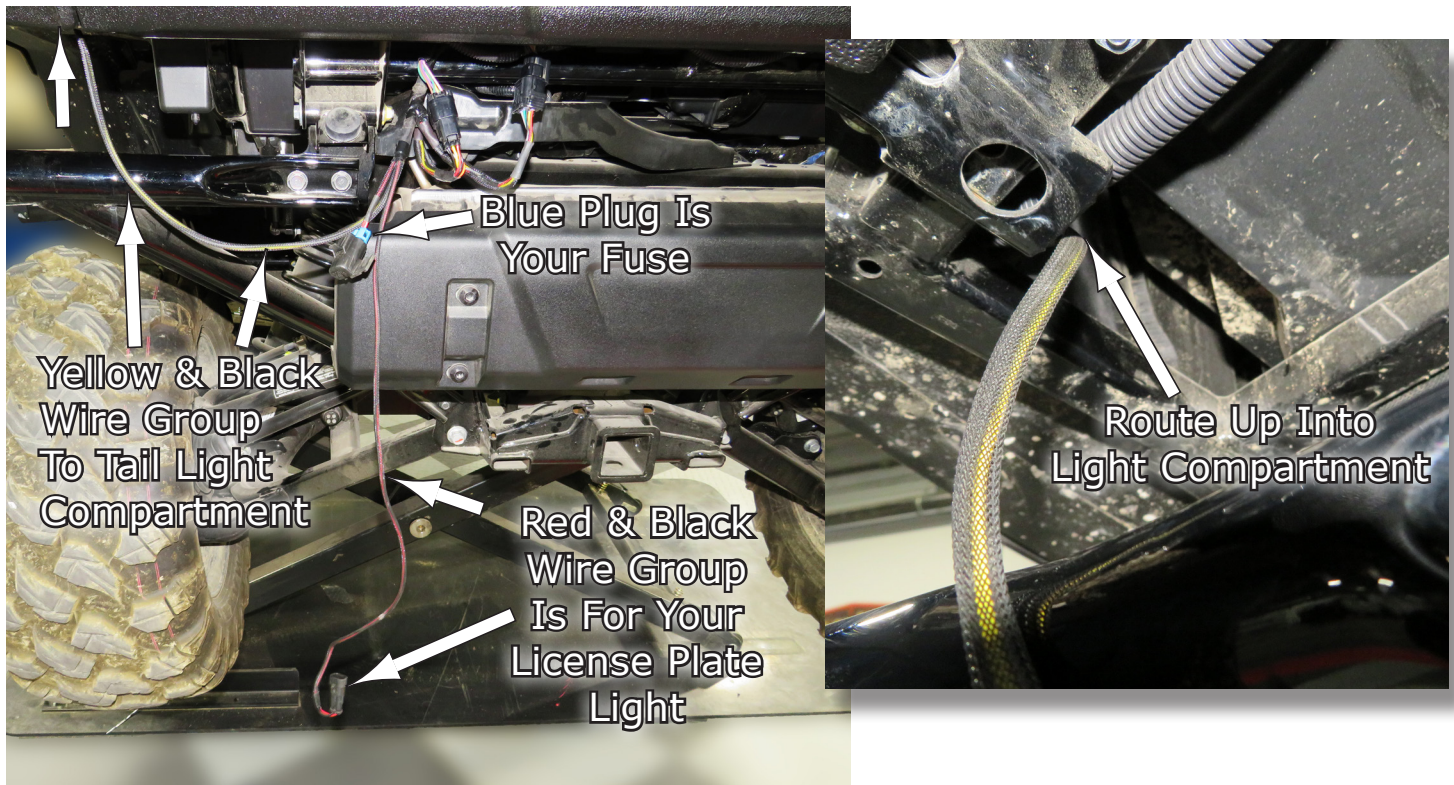

Fig.17
19. After the plugs have been connected in the previous step, now route the Yellow & Black wire group to the Driver's side rear tail light. You will run it up from the bottom up into the light compartment area. **Fig.17** shows this routing.